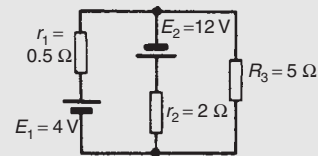

Figure 13.43
**Problem 10.** Determine the current in the 5 Ω resistance of the network shown in Fig. 13.43 using Thévenin's theorem. Hence find the currents flowing in the other two branches.